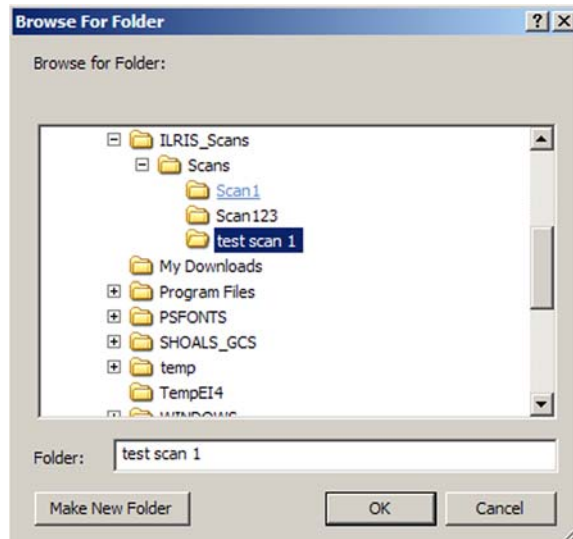

Figure 106: Browse For Folder window
1. Click **File > Load > Scan Project**. The Browse For Folder window opens (Figure 106).